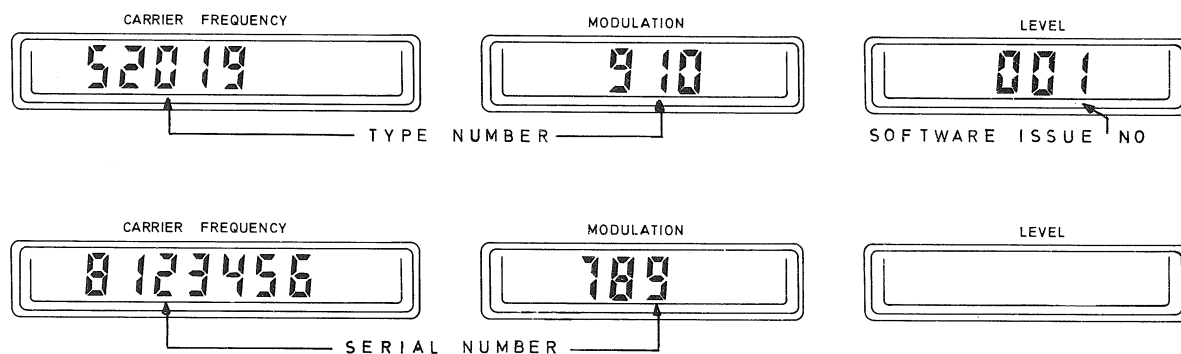

Fig. 6 'Read identity' display
34. Selection of this facility enables the user to confirm the Type number, Serial number and Software issue number of the instrument. This is indicated with two separate displays, the first display shows type and software issue number. The second half of the string indicating the instrument serial number is displayed when the decimal point key is pressed. Both displays are shown in Fig. 6 below.